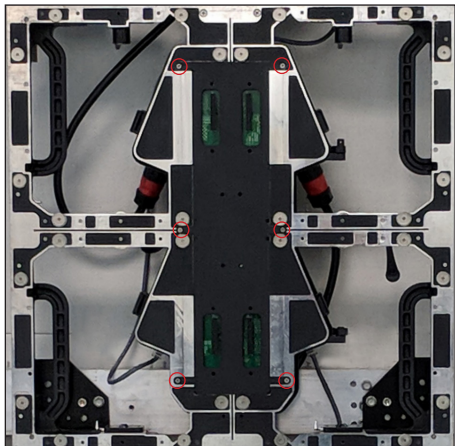

Figure 24: Loosen Six Screws
3. Use a Phillips screwdriver to loosen the six screws securing the front-access plate to the panel. Refer to **Figure 24**.